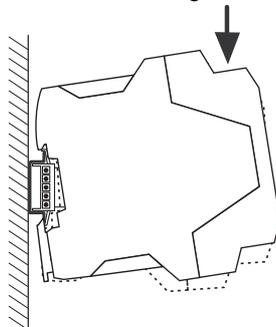

Figure 3-10 Snapping the MSI 200 safety controller onto the DIN rail
3. Place the module onto the DIN rail from above as shown in Figure 3-10 so that the upper holding keyway of the module is hooked onto the top edge of the DIN rail. When using DIN rail connectors, ensure that the contact opening in the base of the module is aligned correctly over the contact block of the DIN rail connector.